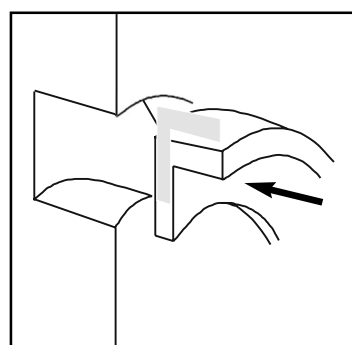

Figure 15 Cup Rubber Insertion in Rotor
a) 55210 pump - insert wave springs (55) into housings. 55320 and 55420 pumps - check that coil springs (54) are in place in housings. Fit joint ring (50) to seal face and lubricate bore in rotor case with a suitable lubricant compatible with the pumped fluid and process. Do not use mineral-oil based lubricants on EP rubber joints; silicone grease is suitable. Align one slot with pin in rotor case and push in seal face; seals should slide freely against their springs.
b) To fit seat to rotor, first fit a new cup rubber to rotor (See Figure 15). Ensure seat is fitted the correct way round, i.e. with smooth working face exposed.